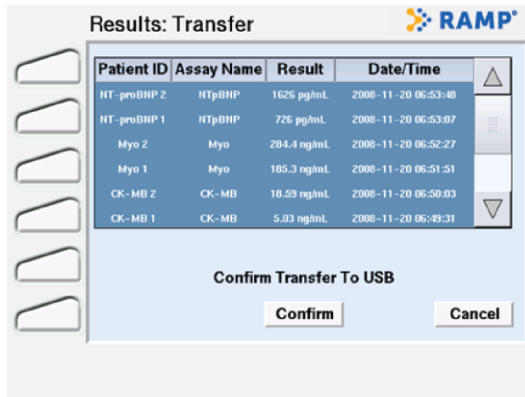

Figure 19 Results Transfer Screen
- 1 From the **Assay Results** screen (Figure 15) or the **All Events** screen (Figure 17), select the desired records to be exported. Touch **Transfer** to open the **Results: Transfer** (Figure 19) or **Events: Transfer** screen.